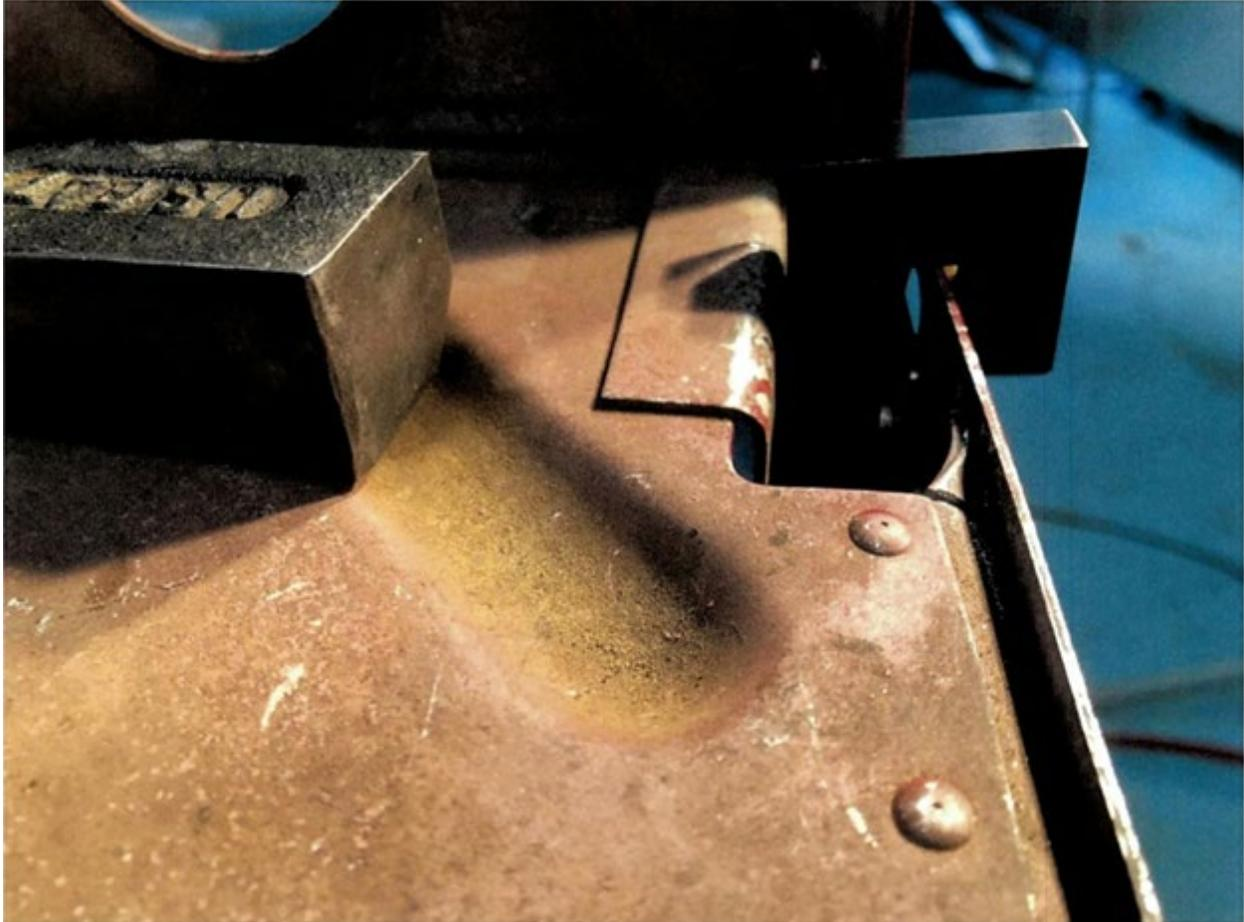

Figure 29: Insert drill guide assembly
17. Now it is time to drill a pilot hole in the tail cone reinforcement angle splice for the horizontal stabilizer rear pivot with the supplied drill guide assembly. Insert the drill guide assembly as shown in Figure 29.